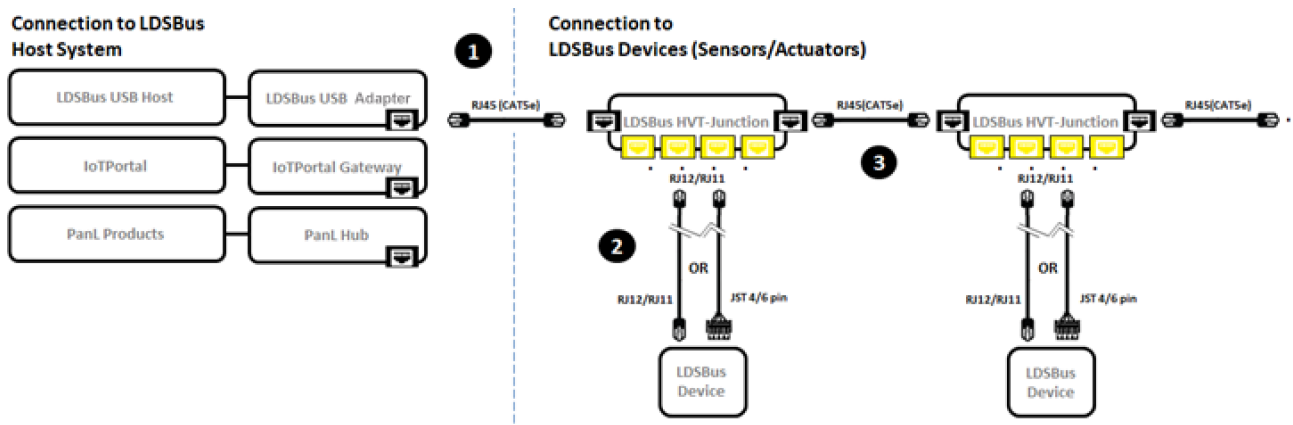

Figure 3 - LDSBus Relay - Connection Diagram
Figure 3 illustrates the connection of the LDSBus Relay (LDSBus Device) to the LDSBus. Please visit <https://brtsys.com/resources> to view the full device application, setup and installation guides.
2. Connect the configured LDSBus Relay to the LDSBus HVT-Junction as shown in Figure 3.
3. If there is more than one LDSBus HVT-Junction, chain them together as shown in Figure 3.